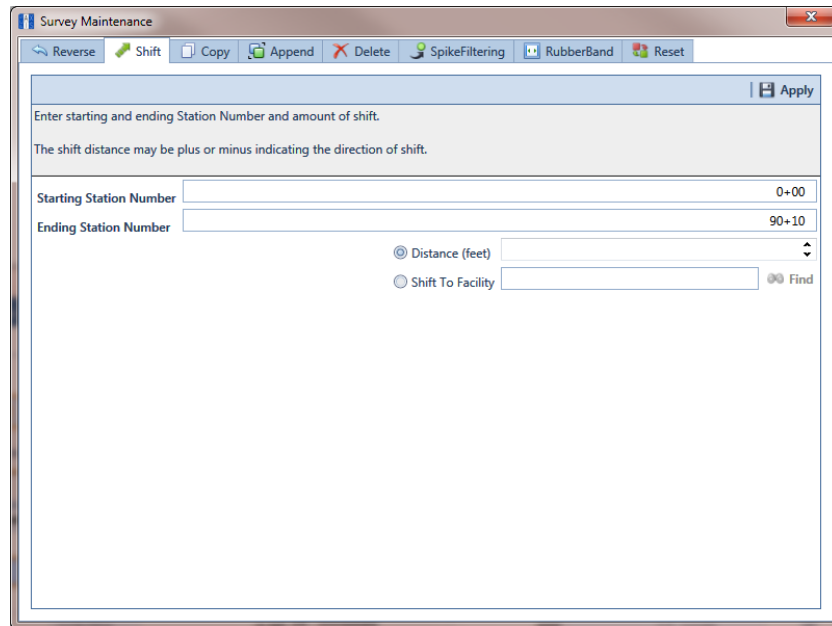

Figure 7-79. Shift Station Numbers
- 5 Click  **Survey Maintenance** to open the *Survey Maintenance* dialog box. Then click  **Shift** (Figure 7-79).